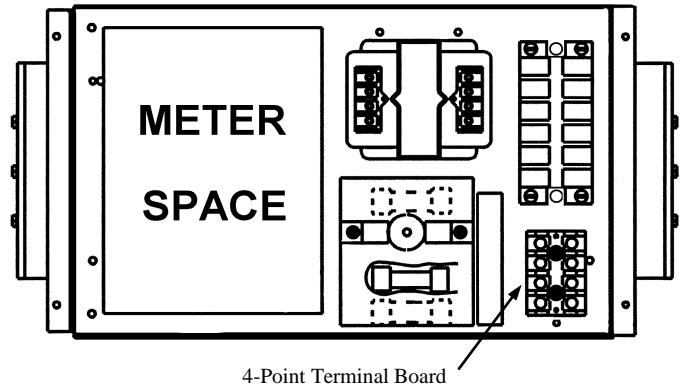
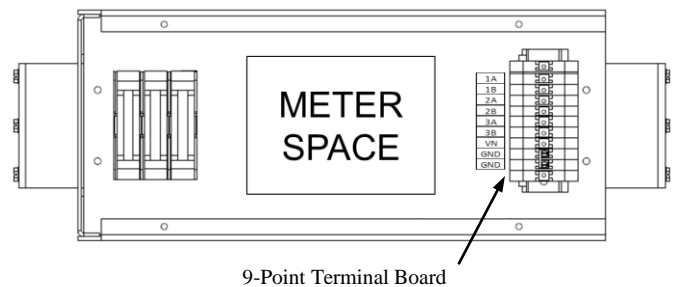

Figure 2. Location of the 4-point terminal board in the meter module.
Figure 2A. Location of the 9-point terminal board in the APM***E50** meter module.
- 2. Locate the terminal board in the meter module.** After installation of the panel, ground, and neutral (if required) into the enclosure, locate the meter module in the panel interior. Open the door of the module and locate the 4-point terminal board (9-point terminal board for APM***E50**), as shown in Figure 2 and Figure 2A.